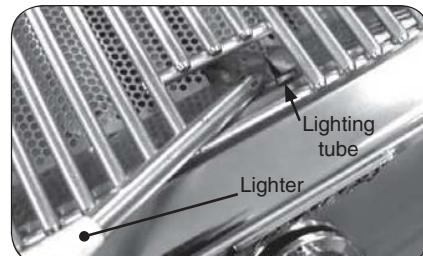

Fig. 11-2 - Manual lighting
2. Insert either a burning long-barrel butane lighter or a burning long-stem match through the cooking grid opening to the top of the lighting tube. (Fig. 11-2).
4. If the burner does not light, **immediately depress the knob and turn the valve to OFF**. WAIT FIVE (5) MINUTES before repeating steps 2 through 4 of the MANUAL LIGHTING instructions.